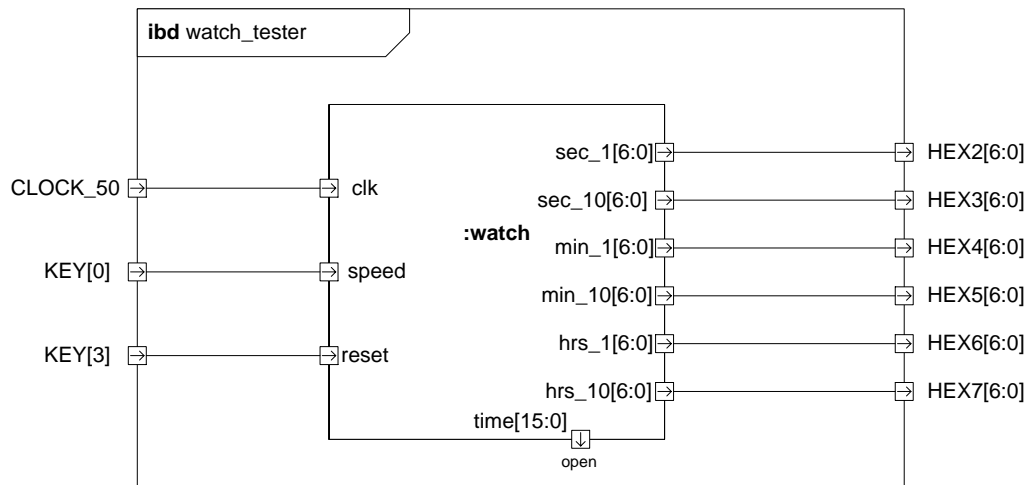
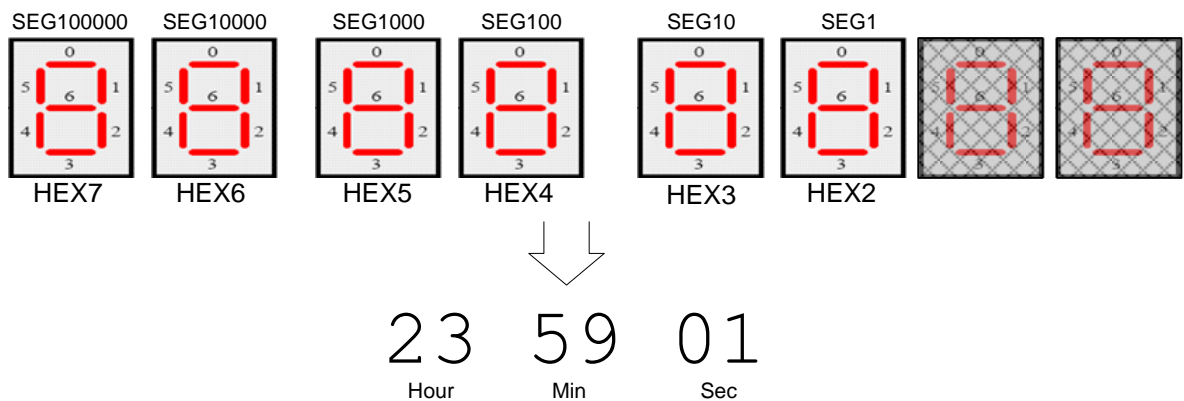

FIGURE 4 WATCH TESTER
FIGURE 5 WATCH OUTPUT
- 2) Create a tester and instantiate the watch in it and connect it as shown in Figure 4. Leave the “time” ports on the watch open for now, by using the “open” keyword (time=>open). Download and test the design on the DE2 board. The output should be a watch as shown in Figure 5.